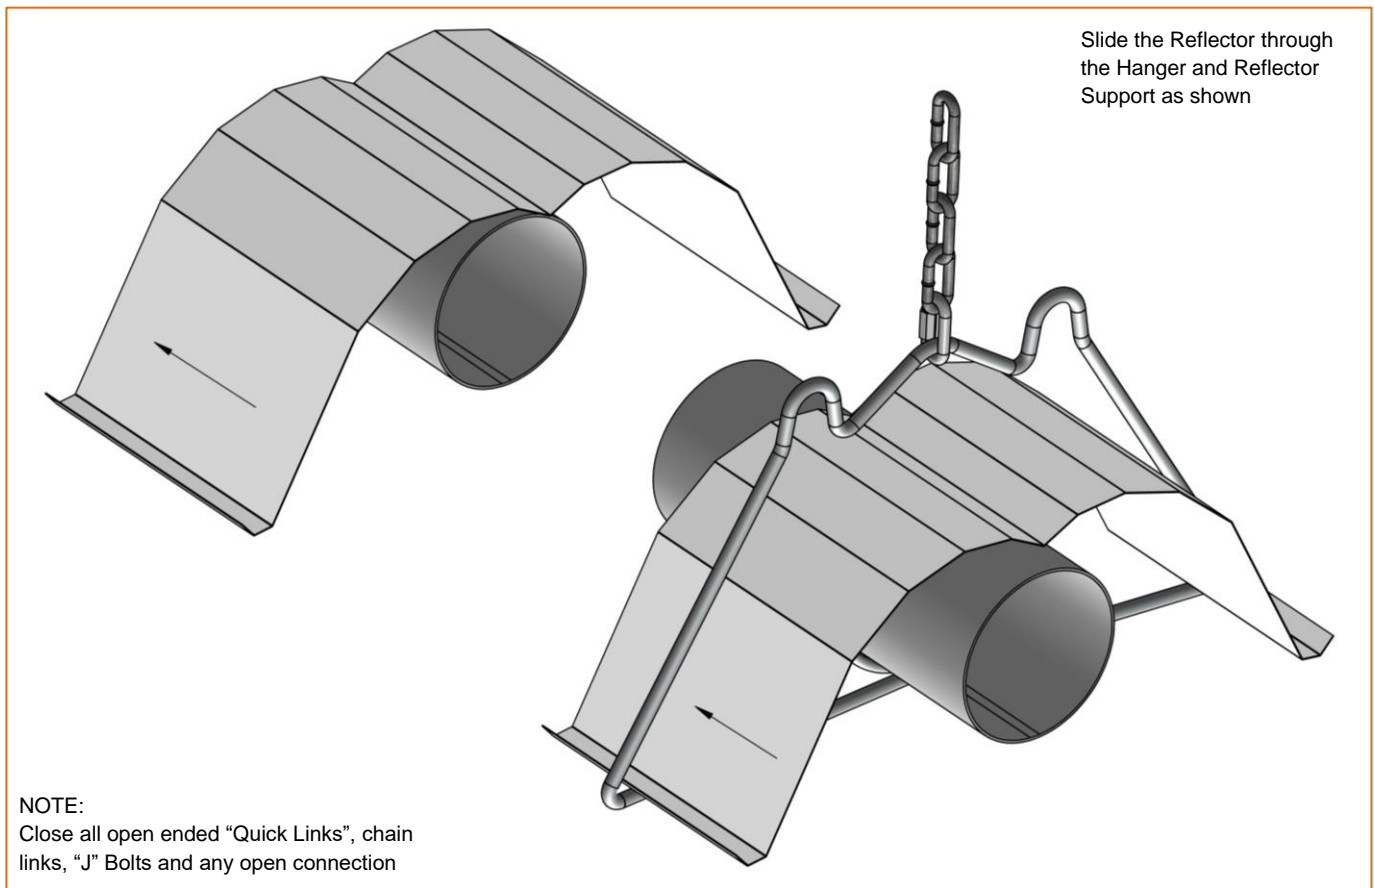

Figure 13: Reflector Installation
- Slide a reflector section into place within the support hanger (Figure 13).